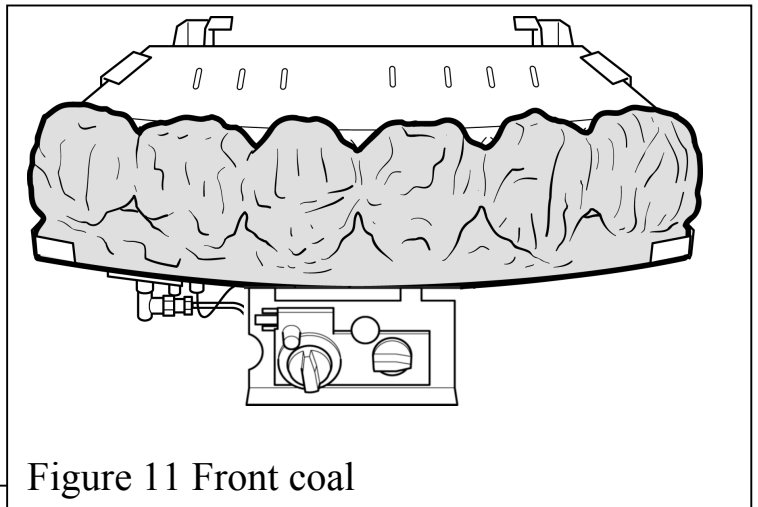

Figure 11 Front coal
1. Remove the front coal from its protective packaging and position in front of the burner as shown in figure 11. The front coal should fit snugly between the burner and the two raised tabs on the front edge of the tray.